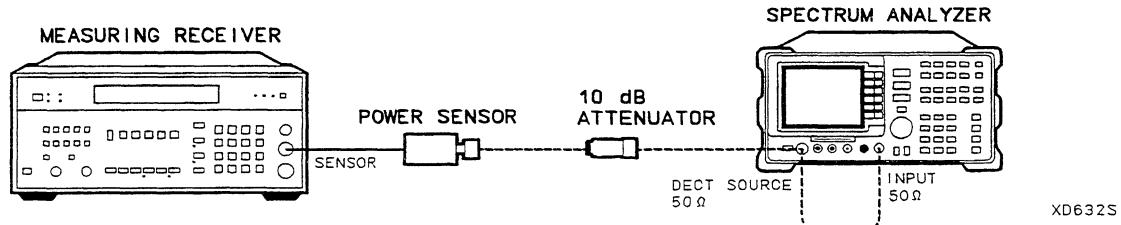

Figure 9-1. Absolute Amplitude Accuracy Test Setup
1. Connect the 23 cm BNC cable between the DECT SOURCE $50\ \Omega$ and INPUT $50\ \Omega$ connectors on the spectrum analyzer, using the N(m) to BNC(f) adapters. Refer to Figure 9-1.
8. Disconnect the BNC cable and the adapter from the DECT SOURCE $50\ \Omega$ output and connect the power sensor to the DECT SOURCE $50\ \Omega$ output. Refer to Figure 9-1. (The 10 dB attenuator pad should not be connected at this stage.)
9. On the spectrum analyzer, press **SRC PWR ON OFF (ON)**, $-40\ \text{dBm}$, **SGL SWP**.
12. On the spectrum analyzer, press **SRC PWR ON OFF (ON)**, $-21\ \text{dBm}$. Allow the reading on the measuring receiver to settle.
23. Connect the 23 cm BNC cable between the DECT SOURCE 50 Ω and INPUT 50 Ω connectors on the spectrum analyzer, using the N(m) to BNC(f) adapters. Refer to Figure 9-1.
27. Disconnect the BNC cable and adapter from the DECT SOURCE 50 Ω output and connect the power sensor to the DECT SOURCE 50 Ω output. Refer to Figure 9-1.
28. On the spectrum analyzer, press **SRC POWER ON OFF (ON)**, -40 dBm, **SGL SWP**.